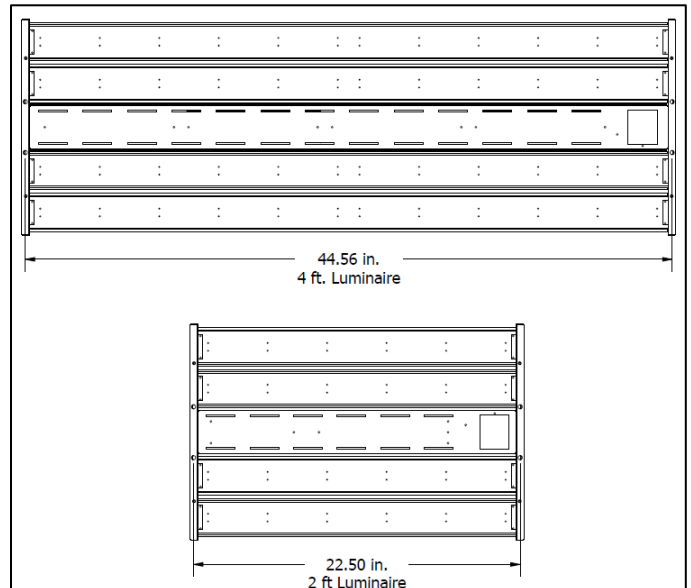

Figure 4
5. Figure 4 shows the mounting hole patterns for 2 ft., and 4ft. luminaires. **Note: All dimensions are for reference purposes only and could be changed without any prior notice.**